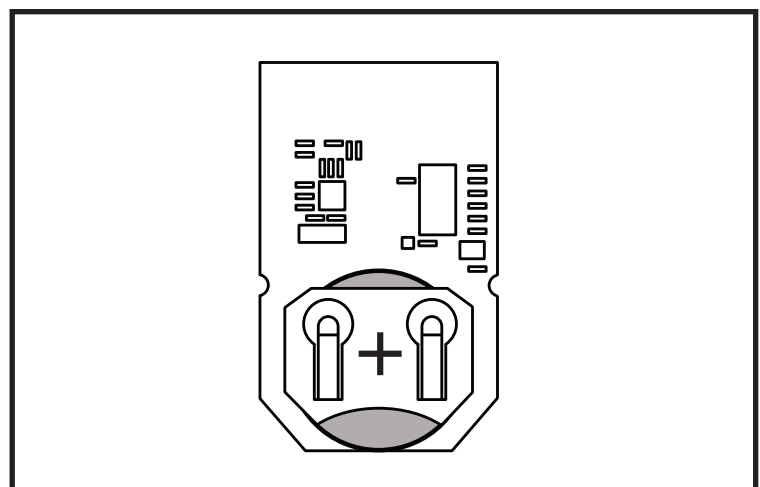

Figure 6. Battery Replacement
3. Slide the replacement battery in, positive side up. **See figure 6.**